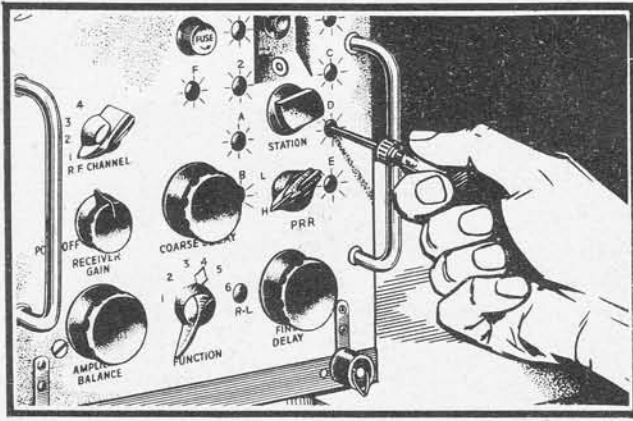

Figure 4-12
a. COUNTER ADJUSTMENTS.—Figures 4-12 to 4-16 are for receiver-indicator emergency operation counter adjustments.